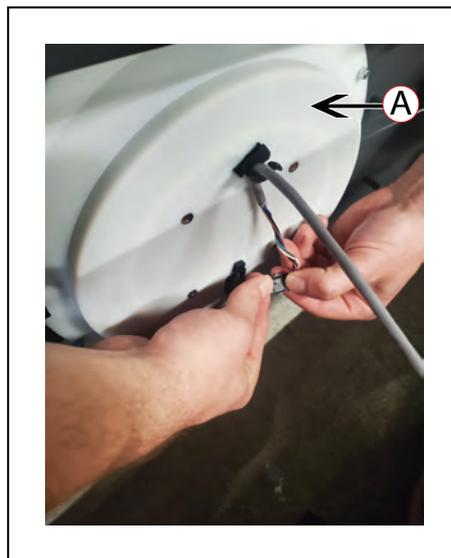

Figure 8-27. Disconnecting the Cable from the (A) LED Mount Plate
) as shown in the following figure. This will allow the LED mount plate ((A) in Figure 8-27. ) to come off once unscrewed from the skin.